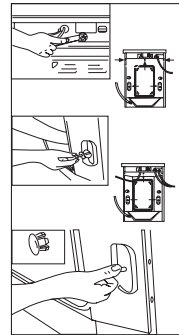

Fig 2
- Remove the packing screws as shown in figure 2. The packing bolts protect the appliance from shock during transportation. The steps below should be followed before using the appliance: